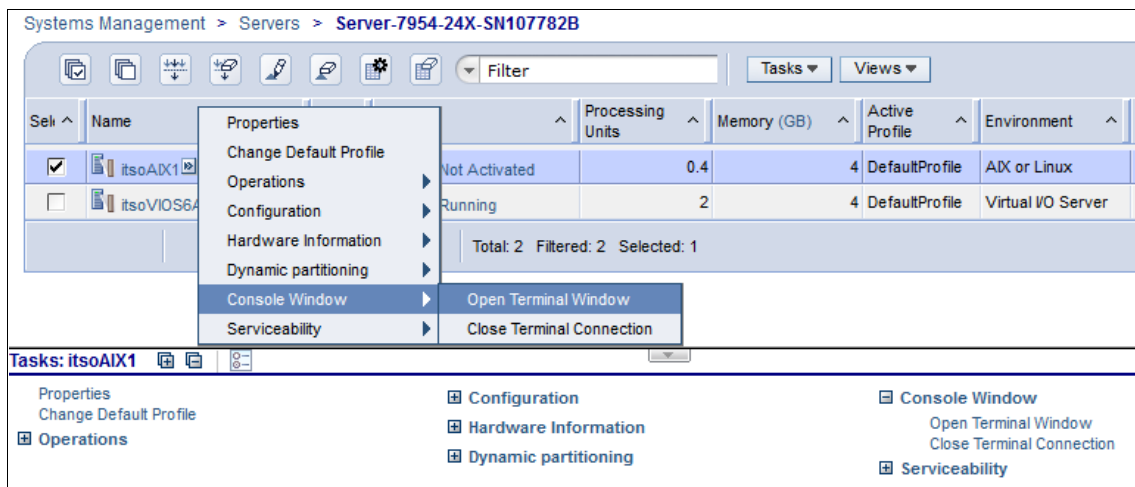

Figure 7-112 Opening a virtual terminal console to a partition from the HMC
1. Click **Servers** in the navigation pane, then click the wanted server in the work pane. The work pane updates and shows the available partitions. Click the wanted partition. By using the task button or the task list, select **Operations** → **Console Window** → **Open Terminal Console**, as shown in Figure 7-112.